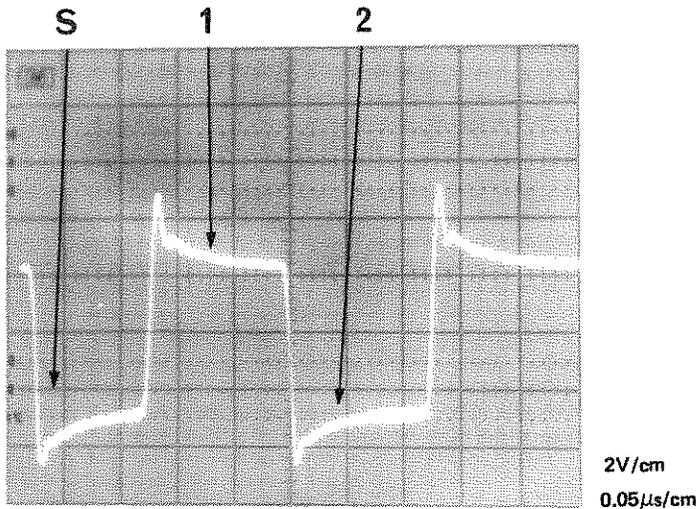

Figure 5-2 Transmit Skew
10. Adjust X-POSITION to centre transition between bits 1 and 2 on the vertical middle line of the graticule, see Figure 5-2.